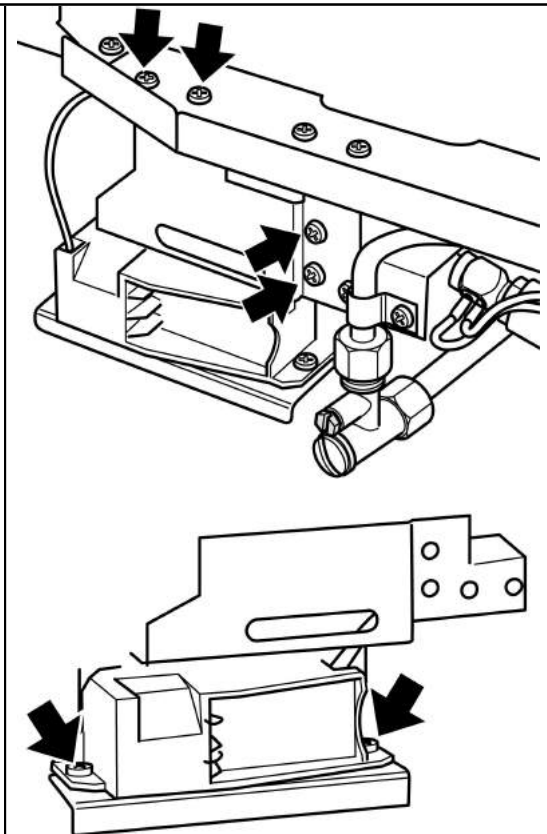

Figure 56. Removal of electronic generator
5. Unscrew the four support bracket screws (See figure 56). The generator and its support bracket can now be moved forward. Be careful not to apply tension to the microswitch leads.
6. Remove the two fixing screws that attach the generator unit to the support bracket. The igniter generator can now be removed (See figure 56)